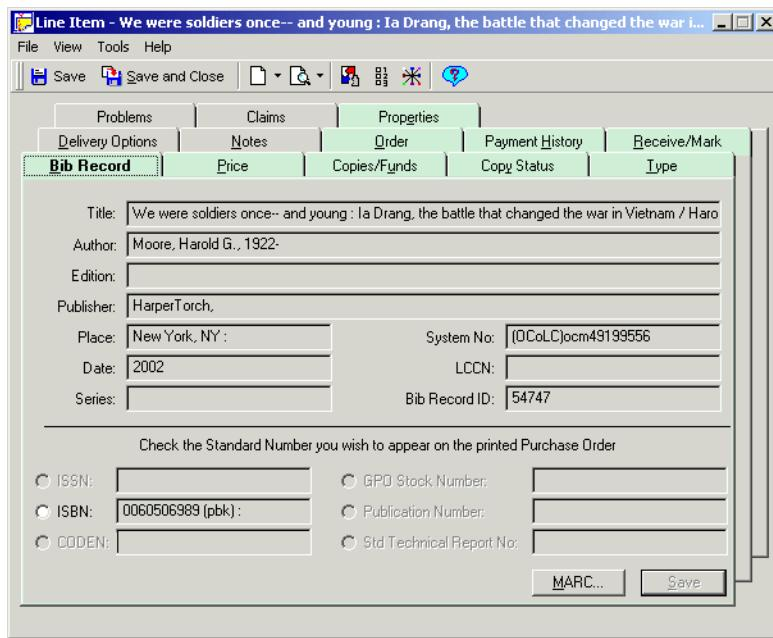

Figure 12-19. Line Item dialog box
Result: The **Line Item** details dialog box opens (see Figure 12-19).
2. Click the tab on which you want to enter data. For example, to enter the actual price of the line item, click the **Price** tab, then enter the correct information, and save it. (see Figure 12-19).